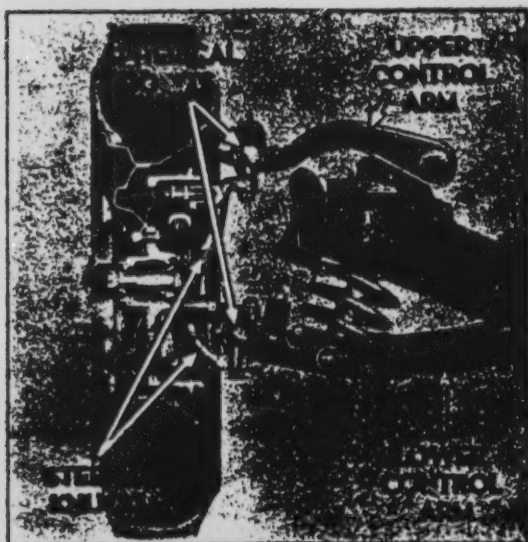
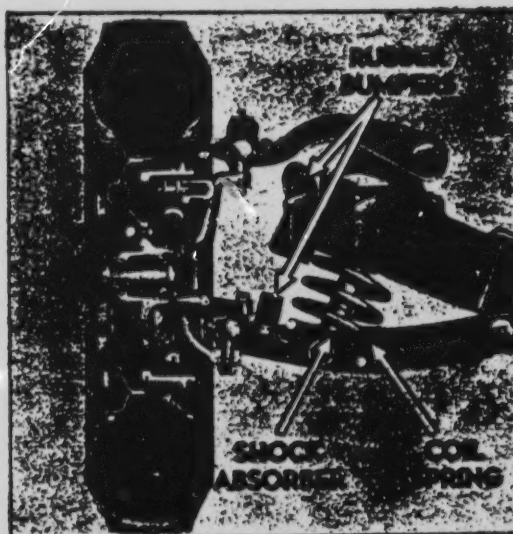

Figure 51. Ball Joint Suspension Upper and Lower Control Arms.
Figure 52. Ball Joint Suspension Shock Absorber and Coil Spring.
The parallel arm suspension is the most commonly used of the several independent wheel suspension types manufactured, figures 51 and 52. The upper and lower control arms are pivoted to the frame in an approximately parallel position. The steering knuckle support is mounted between the ends of these triangular shaped control arms. The inner ends of the upper control arm are attached to the frame by a control arm shaft and bushings, figure 51. The inner ends of the lower control arm are pivoted on a shaft having bearings (bushings) at each end of the shaft and supported by brackets bolted to the bottom of the frame cross member. Shock absorbers used are usually direct acting, mounted inside of the coil spring, figure 52, or on the control arm outside of the coil spring. Regardless of mountings the shock absorbers must be inspected for proper operation because they have a lot to do with good steering and riding qualities.
Coil springs are mounted between sheet metal cups riveted to the lower control arms and cups provided in the frame front cross member, figure 52.
Rubber bumpers are mounted on the outer end of the front cross member or on the control arms to prevent metal to metal contact as the coil spring compresses and rebounds, figure 52.
6. Figure 52 shows two compression rubber bumpers. What is the purpose for these rubber bumpers?
10. What type shock absorbers are used in this study guide, figure 52?